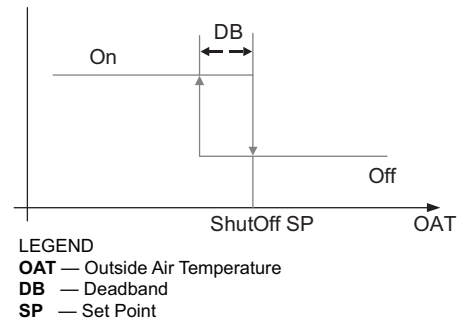

Fig. 58 — Hysteresis Settings
Hysteresis setting (DB) defaults to 2°F (–16.6°C). See Fig. 58.